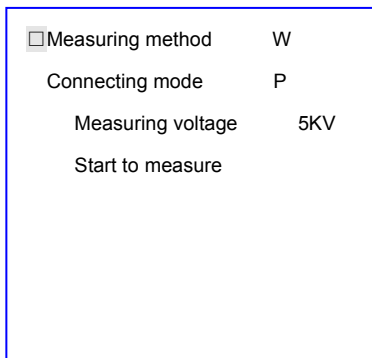

Figure 4 Startup display
① Turn on the main power switch, the display of the screen of instrument is shown in Figure 4.